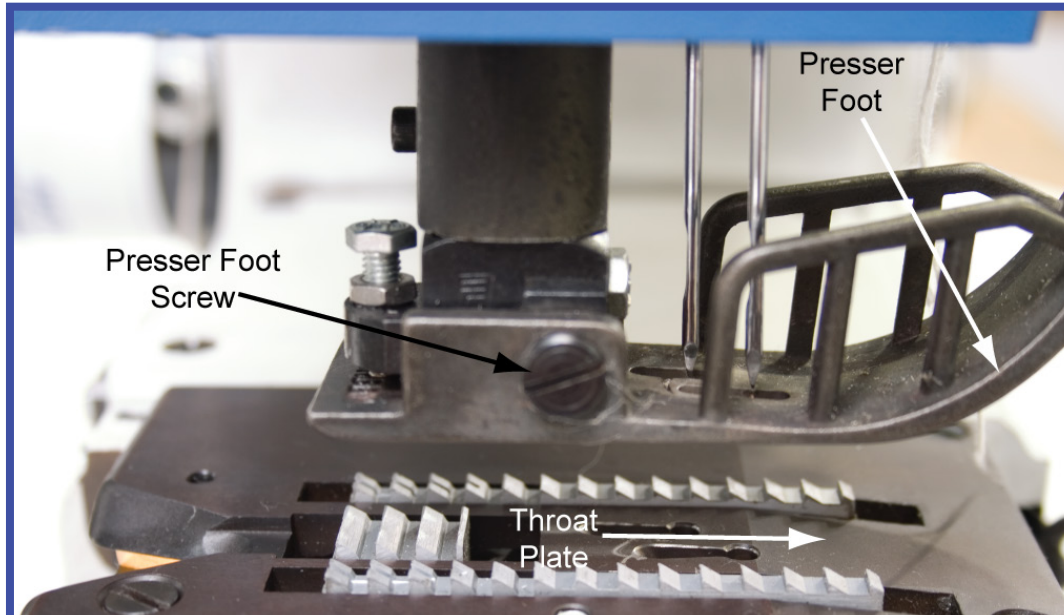

Figure 5.8 Presser Foot Removal
Located beneath the Throat Plate is the Needle Guard. The Needle Guard must be set such that the gap space between the guard and needle is 0.008" (0,2 mm). Adjust the space between the Needle Guard and needles as follows. Refer to Figure 5-8 and 5-9.
2. Remove Presser Foot by removing the Presser Foot Screw as shown in Figure 5-8.